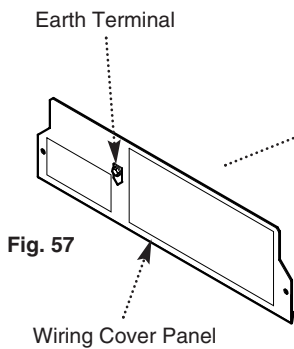

Fig. 57
2. Remove the screws securing the wiring cover panel (Fig. 57) and disconnect the earth lead from the spade terminal on the rear of the panel. Remove the extreme right cable clamp from the wiring loom and ease the grommet out of the electrical box.